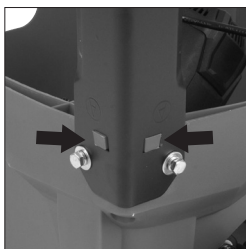

Fig. 4
- Attach the four legs **(A)** to the main body of the machine using the previously removed hex headed screws. Do not tighten the screws at this stage. Hand tight is sufficient and be careful to ensure that the rectangular boss moulded into the machines body engages with the rectangular slot found in the top of the legs **(Fig. 4)**